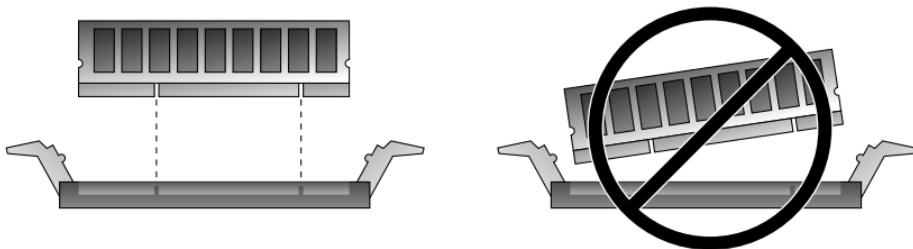

Figure 1-5 Correct DIMM Insertion
- 2. Push apart the ejection levers at each end of an empty DIMM connector on the motherboard (Figure 1-5).**
4. Position the DIMM in the connector, ensuring that the alignment notches on the bottom of the DIMM are aligned with the connector alignment keys (Figure 1-5).
Caution – Seating the DIMM into a slot unevenly can cause short circuits that damage the system. Ensure that all contacts engage at the same time. Do not rock the DIMM into place. You should hear a “click” when the DIMM is properly seated. See Figure 1-5.